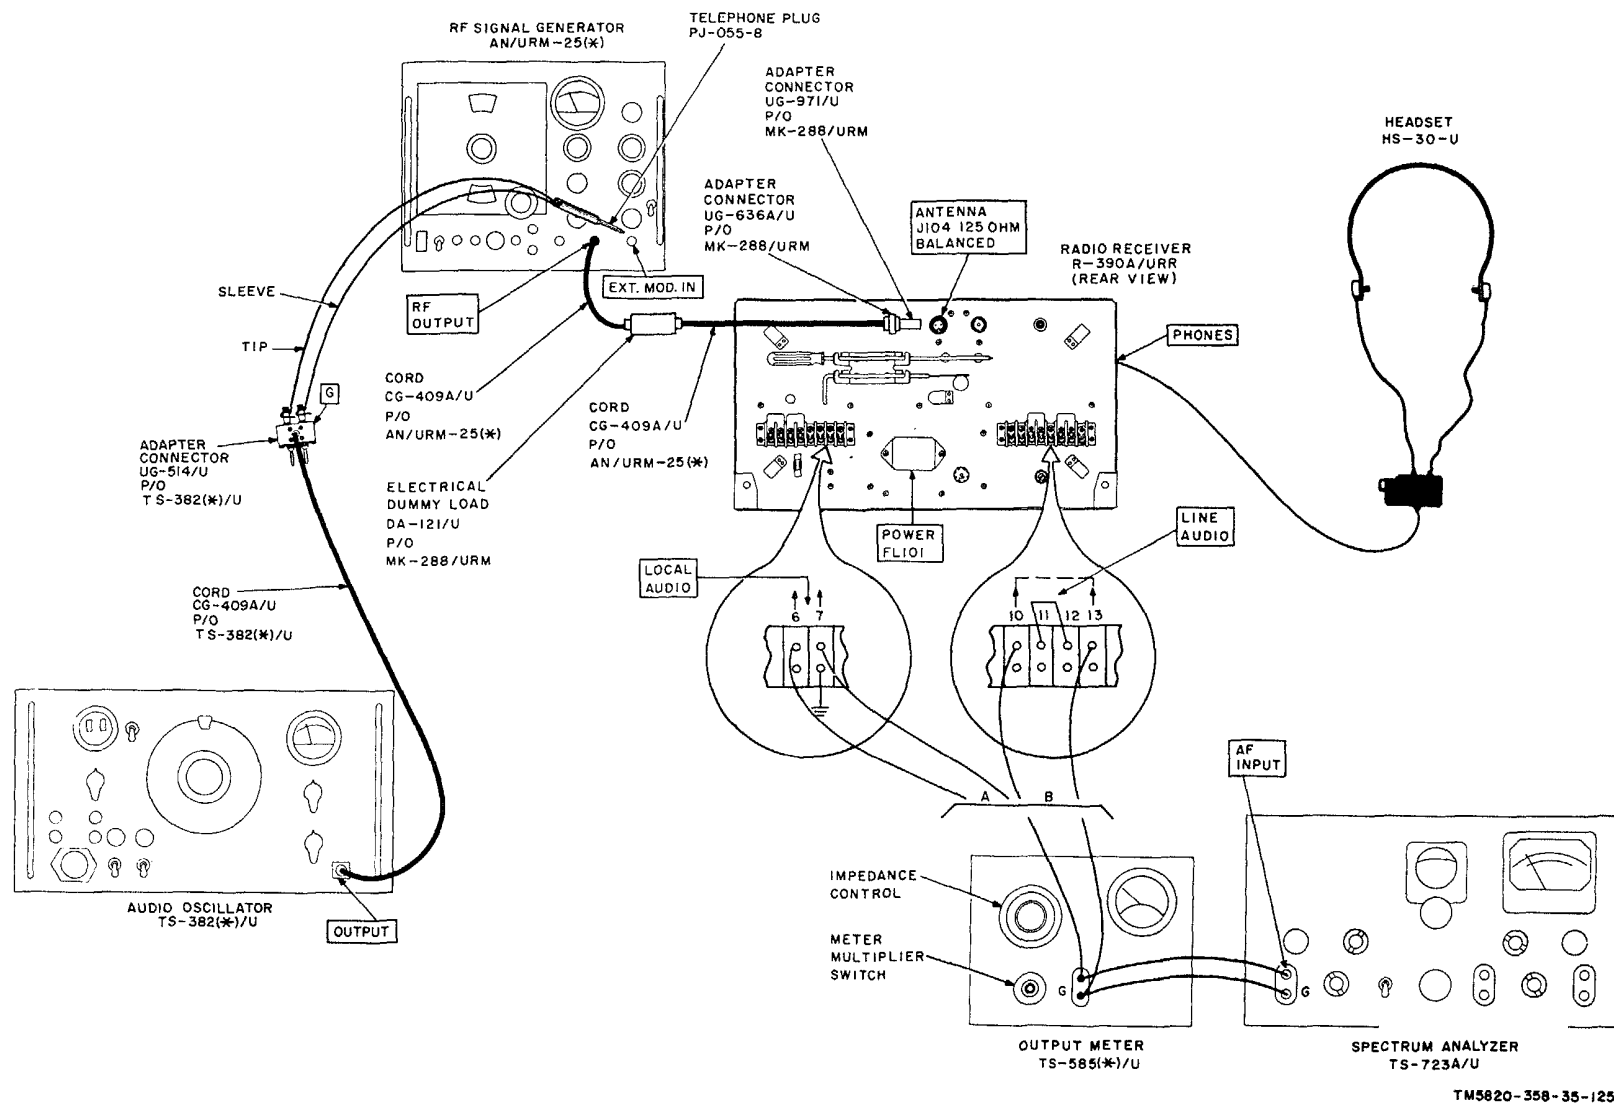

Figure 80. Audio distortion tests setup.
distortion test (fig. 80), Cord CG-409/U is used in place of Telephone Plug PL-055-B.
- (fig. 80)
- b. Test Connections and Conditions. Connect the equipment as shown in A, figure 80. Turn the TS-723A/u on and allow it to warm up for 10 minutes.